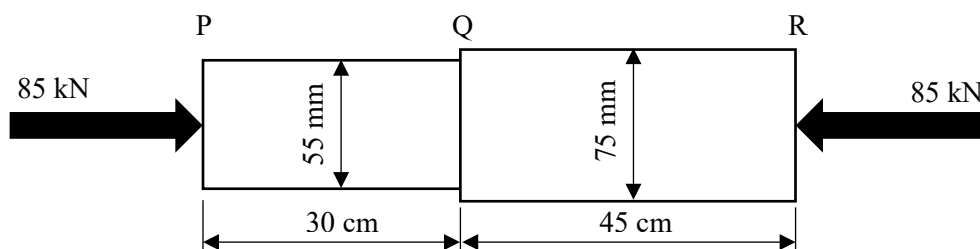

Figure 1(b) / Rajah 1(b)
- (b) A composite bar, consisting of Aluminium at PQ and Copper at QR are subjected to compressive load of 85 kN as illustrated in Figure 1(b). If PQ bar has diameter of 55 mm and QR bar has diameter of 75 mm, calculate;
- CLO1 (c) A composite parallel bar is made of **TWO (2)** bars, that are bronze and copper with an initial temperature of 25 °C as shown in Figure 1(c) below. The copper diameter is 50 mm and 85 mm for bronze. The bar was rigidly fixed at both ends. Calculate the stress in each bar when the temperature is risen to 75 °C;
*Sebatang bar komposit selari terdiri daripada DUA (2) batang iaitu gangsa dan kuprum dengan suhu awal 25 °C, seperti yang ditunjukkan dalam Rajah 1(c) di bawah. Diameter batang gangsa ialah 50 mm dan 85 mm untuk kuprum. Palang tersebut diikat secara kaku pada kedua-dua hujungnya. Hitung tegasan dalam setiap bar apabila suhu dinaikkan kepada 75 °C;*